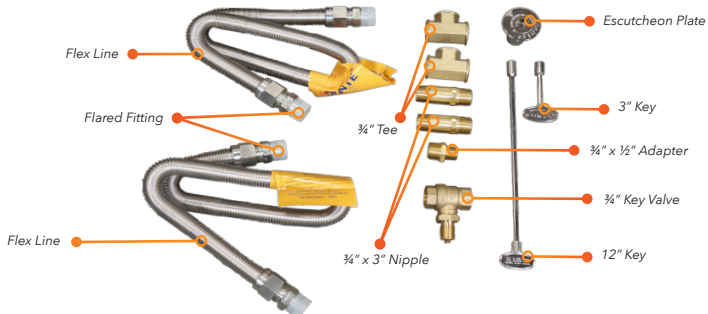

Figure 24: FK2 Flex Line Kit
6.6 Identify your FK2 for 250K BTU and above units. **{See Figure 24}**